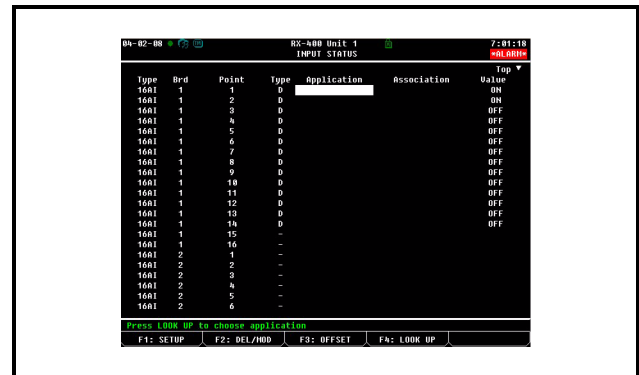

Figure 8-1 - Input Status Screen (Condensed Mode Shown)
2. If you have not yet done point setup for the Gateway's virtual I/O points, follow the steps outlined in **Section 6.2.1., Condensed Mode Point Setup** or **Section 6.3.1., Expanded Mode Point Setup**. When point setup is complete for all PerformanceAlert™ Gateway virtual I/O points, you should see the letter "D" next to each PerformanceAlert™ input point. In the example (**Figure 8-1**), the Gateway is operating in Condensed Mode designated as 16AI board #1, with all fourteen I/O